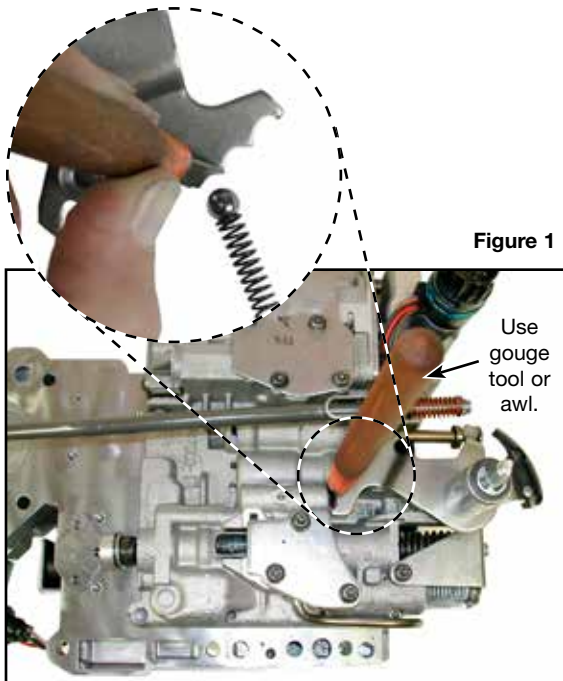

Figure 1
- b. Secure manual lever detent ball by using a dull wood workers gouge tool to compress the detent ball while removing the manual lever (**Figure 1**).